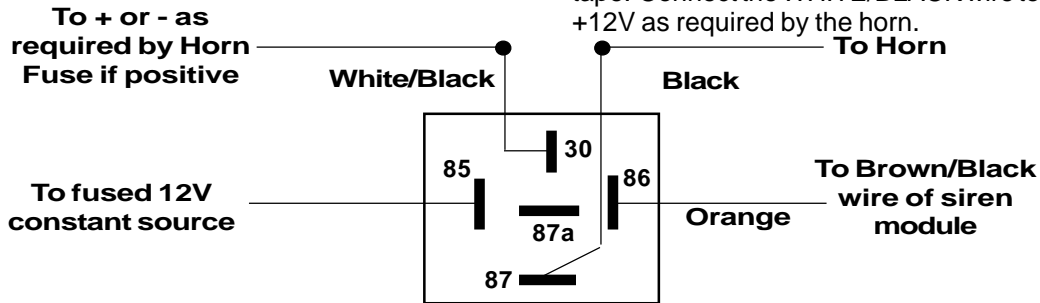

**FIGURE 3**
2. Secure the relay to an existing wire harness or other component using cable ties. Refer to Figure 3.